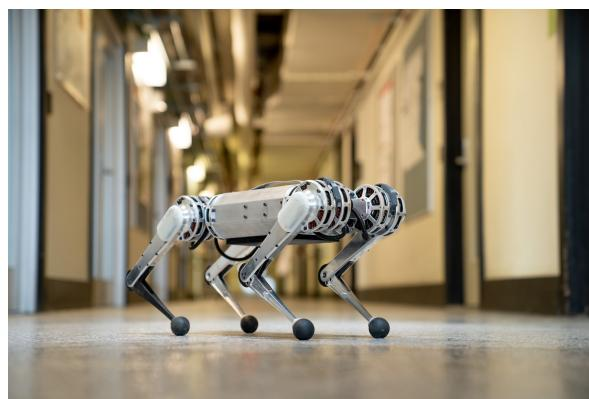

Figure 2: MIT MiniCheetah
Innovation has come a long way since then. The MiniCheetah (see fig 2), developed at MIT, is the first robot quadruped to do a back-flip. It uses brushless motors and a planetary gear with a 6:1 reduction, making it incredibly agile and robust [1].
- [3] A Reciprocal Excitatory Reflex Between Extensors Reproduces the Prolongation of Stance Phase in Walking Cats: Analysis on a Robotic Platform - Scientific Figure on ResearchGate. Available: https://www.researchgate.net/figure/Leg-design-of-the-quadruped-robot-A-Degree-of-freedom-for-the-legs-B-Detailed_fig2_350734605